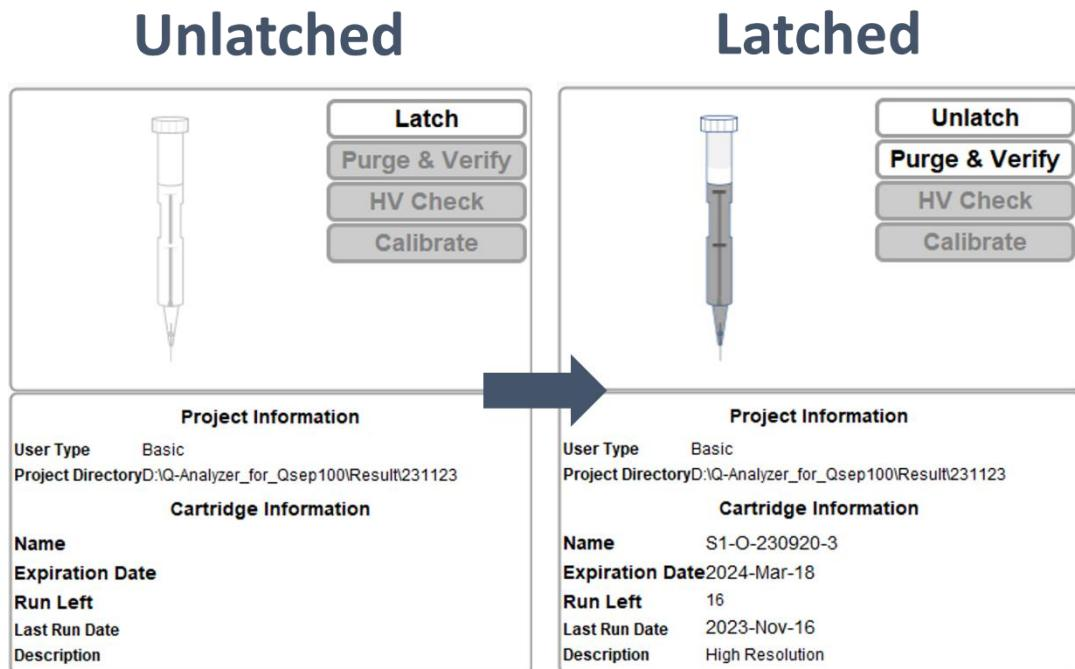

Figure 15 Before and after the cartridge is latched
2. The cartridge information section on the left will display details such as Cartridge Number, Expiration Date, and Runs Left. The image of the cartridge will also be displayed in color (Figure 15).